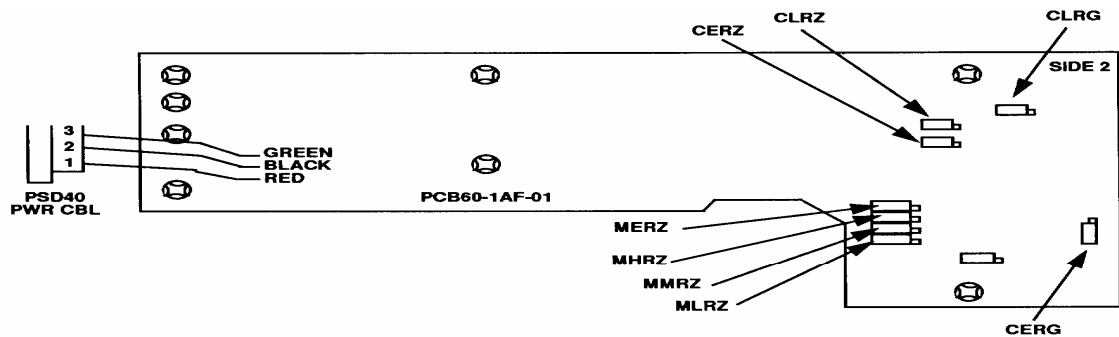

Figure 2. PCB60-1AF-01, side 2 - adjustment locations.
(1) Remove capacitance standard connection from TI **TANK UNITS LOZ** and **HIZ** terminals.
(2) Remove six screws from front panel and remove front panel assembly from case.
(3) Adjust CLRZ potentiometer (fig. 2) until TI display indicates **0000** and - sign on the display alternately illuminates (**R**).
(4) While pressing **EXTENDED RANGE** pushbutton, adjust CERZ (fig. 2) potentiometer until TI display indicates **0000** and - sign on the display alternately illuminates (**R**).
(5) Repeat steps (3) and (4) above as necessary.
- (6) Repeat technique of a (7) and (8) above.
- (7) Adjust CLRG (fig. 2) potentiometer for a TI display indication within $\pm 0.1\%$ of test report value (R).
- (8) Remove variable capacitor.
- (9) Repeat technique of a (4) and (5) above substituting .01 μf capacitor standard.
- (10) While pressing **EXTENDED RANGE** pushbutton, adjust CERG potentiometer (fig. 2) for a TI display indication within $\pm 0.1\%$ of recorded value (R).
- (11) Repeat steps a (3) through (13) above as necessary.
- (12) Install front panel assembly in case and reinstall six screws which were removed.
- (1) Remove resistance standard connections.
- (2) Remove six screws from front panel and lift front panel from case.
- (3) Set **SELECT** switch to **LOZ-HIZ**.
- (4) Connect 10 M Ω resistance standard No. 1, to TI **TANK UNITS LOZ** and **HIZ** using special test cables.
- (5) Adjust MLRZ potentiometer (fig. 2) for display indication of 10.00 (R).
- (6) Connect 100 M Ω resistance standard No. 1, to TI **TANK UNITS LOZ** and **HIZ** using special test cables.
- (7) Adjust MMRZ potentiometer (fig. 2) for display indication of 100.0 (R).
- (8) Connect 1000 M Ω resistance standard No. 1, to TI **TANKS UNITS LOZ** and **HIZ** using special test cables.
- (9) Adjust MHRZ potentiometer (fig. 2) for display indication of 1000 (R).
- (10) Connect 10 G Ω resistance standard No. 2, to TI **TANK UNITS LOZ** and **HIZ** using special test cables.
- (11) Adjust MERZ potentiometer (fig. 2) for display indication of 10000 (R).
- (12) Replace front panel in case and reinstall six screws.